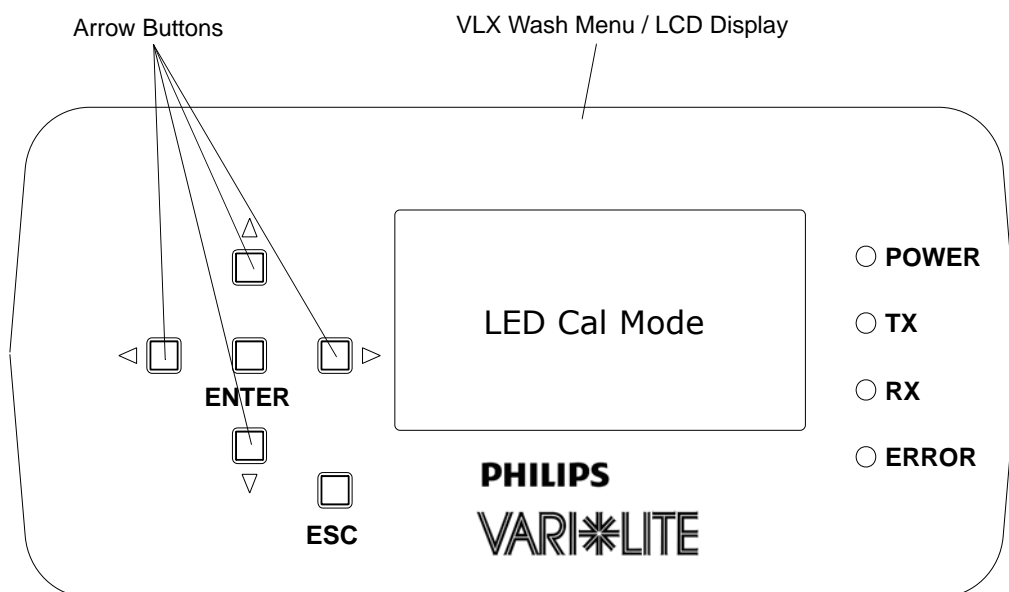

Figure 2-65: VLX Wash Menu / LCD Display
- Step 2. Access luminaire LED calibration menu by pressing and holding all four arrow buttons (on luminaire Menu) simultaneously until LED CAL Mode is shown on LCD display. Refer to Figure 2-65.